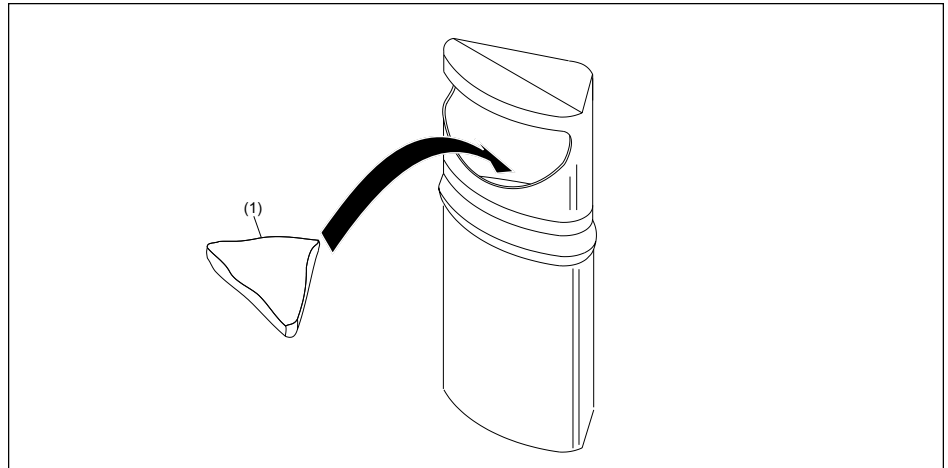

Figure 16. Place Sandbag in Receptacle
1. Place the 15lb sand bag (P/N 53-400343-000) in the bottom of the waste receptacle. Refer to *Figure 16*.